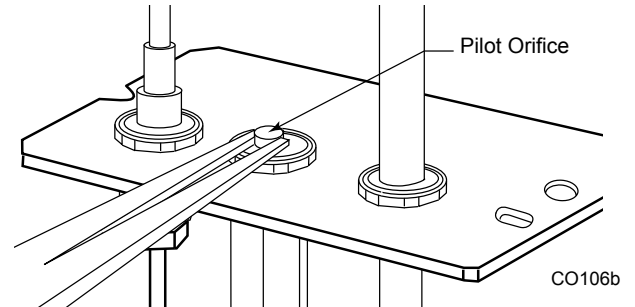

Fig. 56 Remove pilot orifice.
- Remove pilot orifice with needlenose pliers. (Fig. 56) **NOTE:** Use a wrench to hold pilot tube in place while removing the orifice.